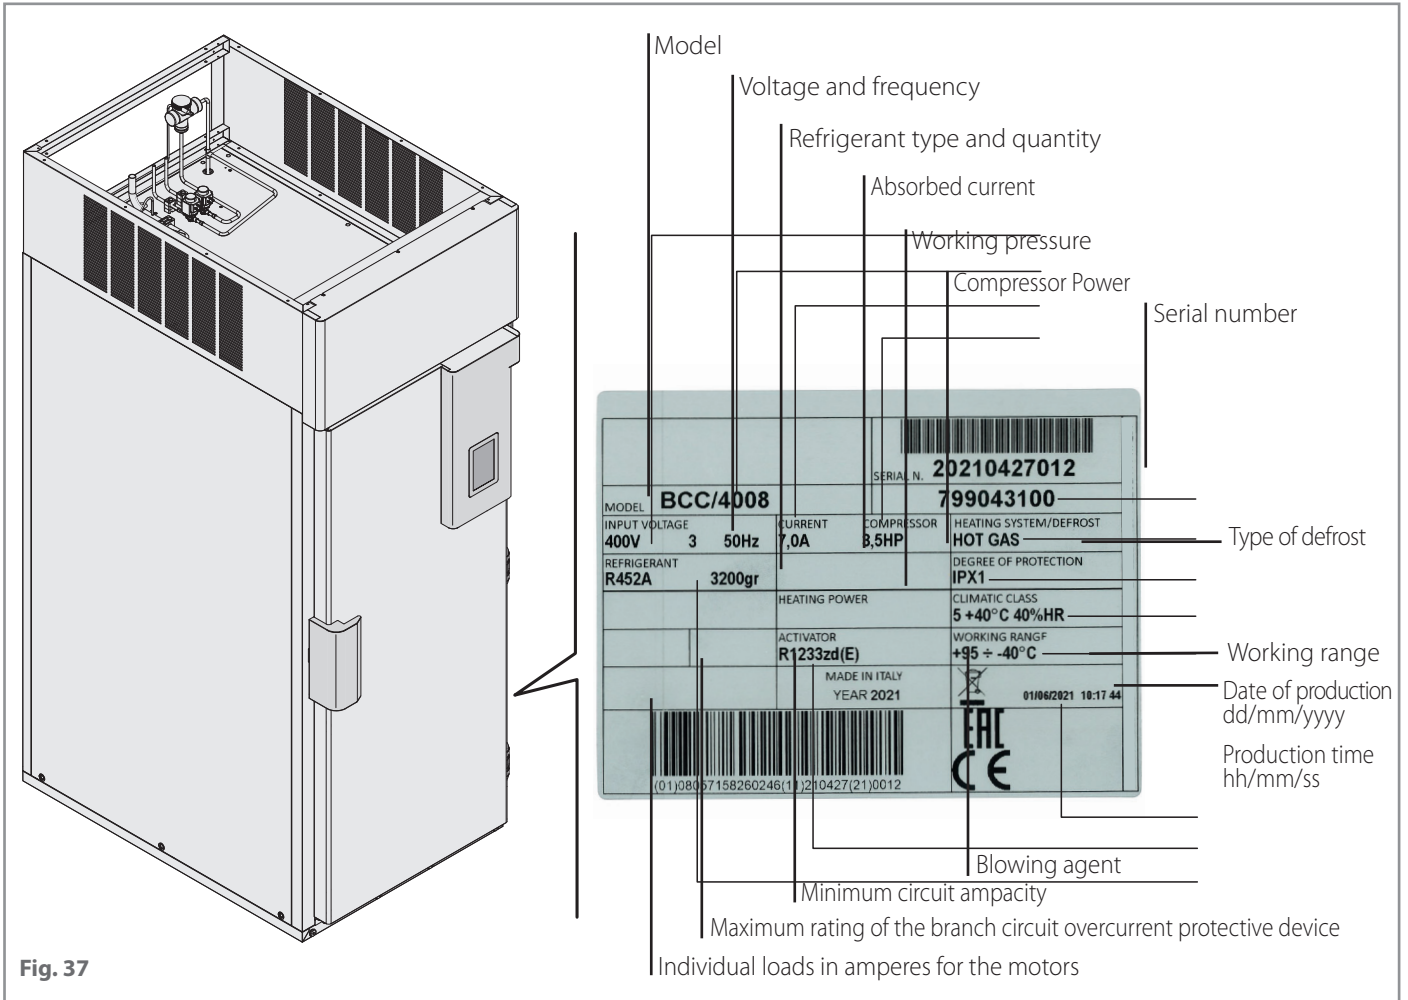

Fig. 37
► **Fig. 37** Before doing so, record the **machine data**, the **date and the number of the equipment purchase invoice**, the **codes of any alarms** shown on the display: